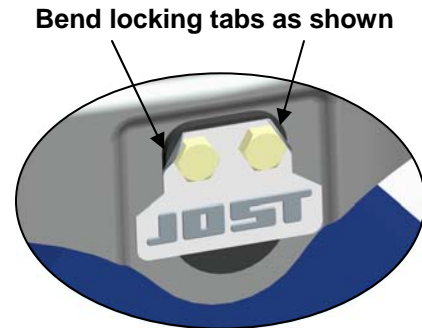

FIGURE 7
4. Install the bracket pins, tab washers and mounting bolts. Securely tighten the mounting bolts, then bend the locking tabs over each bolt (see figure 7).